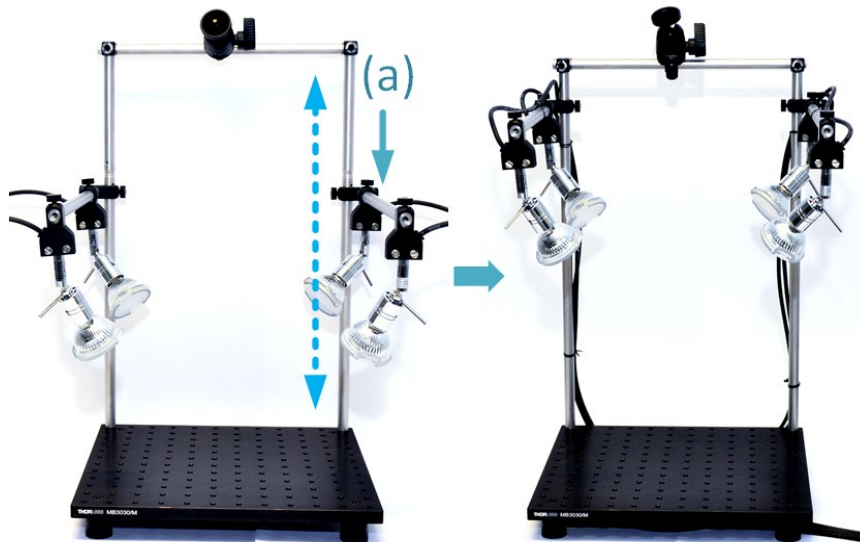

Figure 30 Adjust height of lamps depending on application needs (Step 4.5)
Step 4.5 Adjust the height of the lamp posts (Figure 30)
- a. The height of the lamps can be adjusted by moving the lamp holding posts up and down along the vertical posts (as indicated by red arrow in Figure 30)
The recommended height is shown in Figure 30. You can choose a suitable height depending on your application needs.